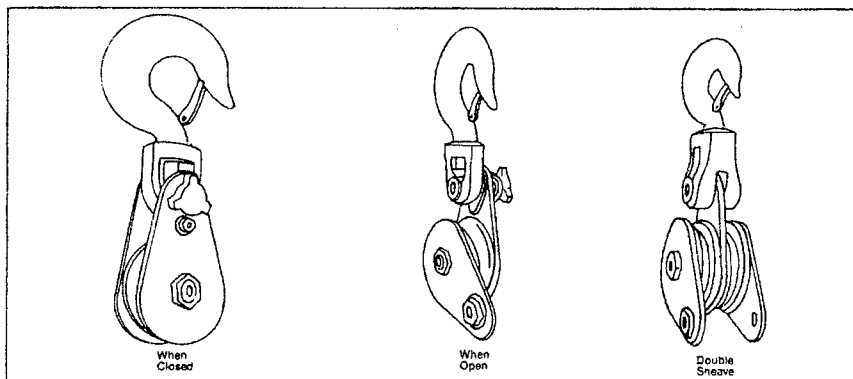

Fig. 2-20 Snatch block
- 3. **Type of Blocks.** Blocks most commonly used on tenders are wooden or metal, snatch, single, and double blocks. Snatch blocks are one of the most useful types of blocks found on board a vessel since they can be easily moved. This block may be employed conveniently as a lead block since it is fitted with a hinged shell so a line may be easily snatched on a bight. In using this block, take care to see that the block is properly secured to prevent its opening at the wrong time. **Figure 2-20** is a picture of a snatch block.